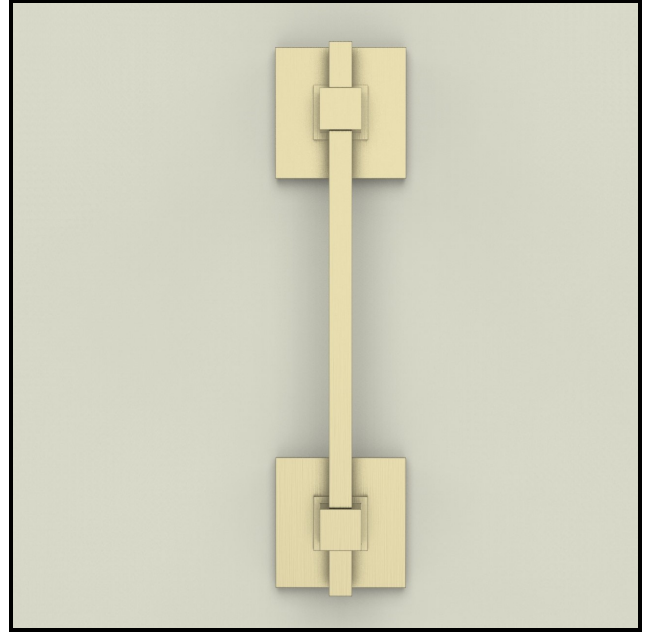

Figure 22
- Give fixture a gentle pull to make sure set screws are properly tightened (Figure 22)